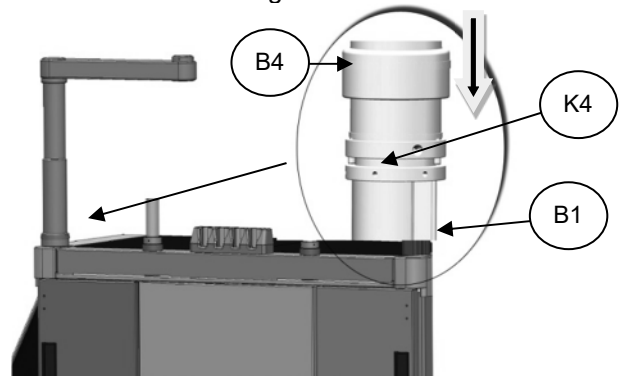

Fig. 12
11. Once the support is mounted on the workstation, turn it left and right until its limits are in the desired position. Then adjust the captive screws M3 with the key **K4**. Do not adjust the screws that match with the cable pass slot of the cable pass axis cone **B1**, as they cannot be adjusted (it was oriented to the interior of the workstation). Finally lower and adjust the knurled trim (Fig.12)